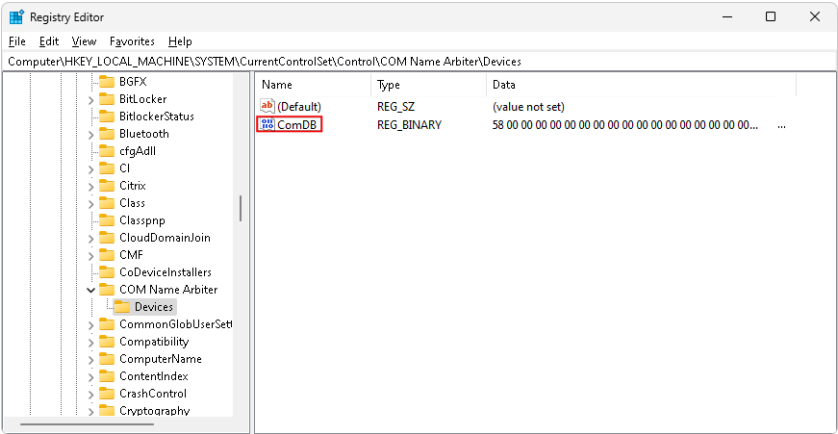

Fig. 14: Registry Editor
- In the *Start* menu, type **regedit** and hit enter. You will be prompted with a message: "Do you want to allow the following program to make changes to this computer?" After clicking Yes, window as seen in **Fig. 14** on pg. 12. will be opened.